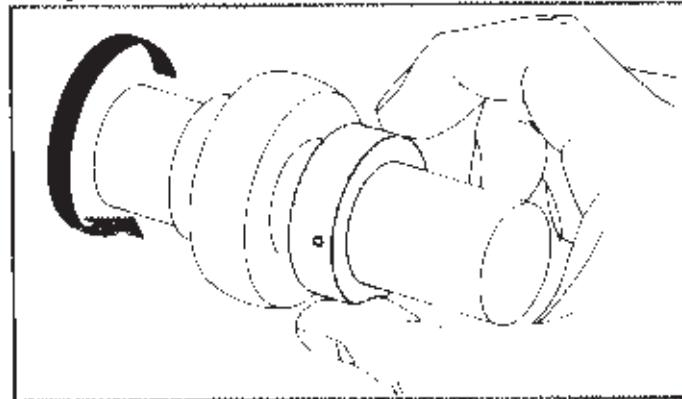

FIGURE 113
- 2 - Press collar lightly against inner ring, then turn collar in direction of shaft rotation until engaged. Refer to Figure 113.